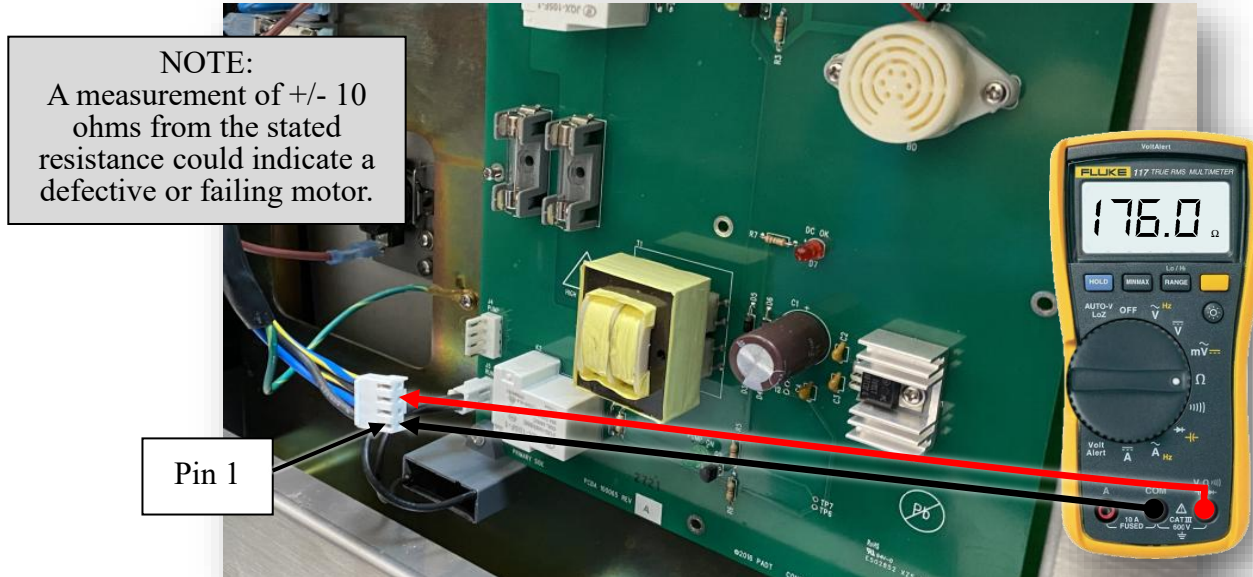

Figure 22 – Pins 1 and 3 (Pump Motor Winding Resistance)
- a. Unplug the SCA from power and remove the “PUMP” connector from the PCB. Choose the Resistance Selection Ω on the multimeter. Check the resistance of the Pump between pins 1 and 3 (See Figure 22).